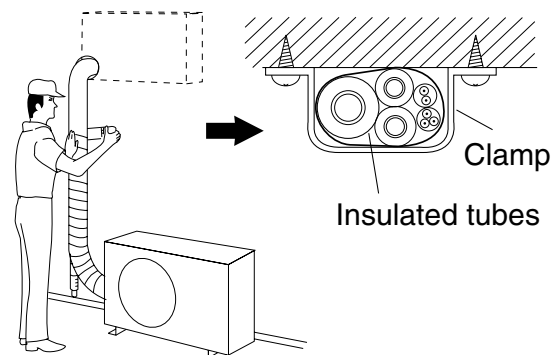

Fig.33
- Wrap the armoring tape from the bottom of the outdoor to the top of tubing where it enters the wall. As you wrap the tubing, overlap half of each previous tape turn. (Fig. 33)